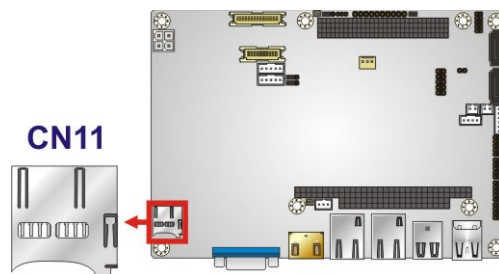

Figure 3-13: microSD Card Slot Location
- CN Location:** See **Figure 3-13**